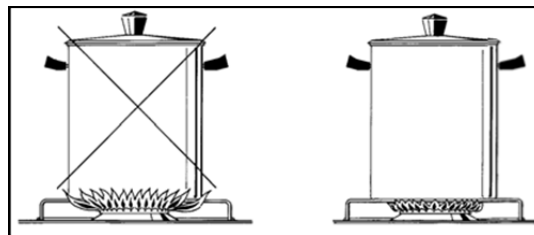

Fig. 19
- Use suitably sized pots for each burner (see tab. 4 and Fig. 19).